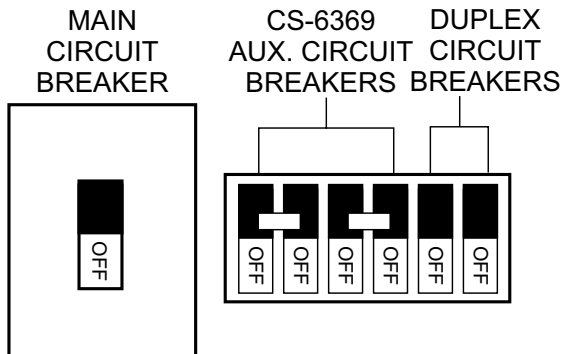

Figure 57. Main, Aux. and GFCI Circuit Breakers (OFF)
1. Place the **MAIN, GFCI and LOAD** circuit breakers as shown in Figure 57 to the **OFF** position.
3. Place the **MAIN, GFCI and LOAD** circuit breakers as shown in Figure 57 to the **OFF** position.